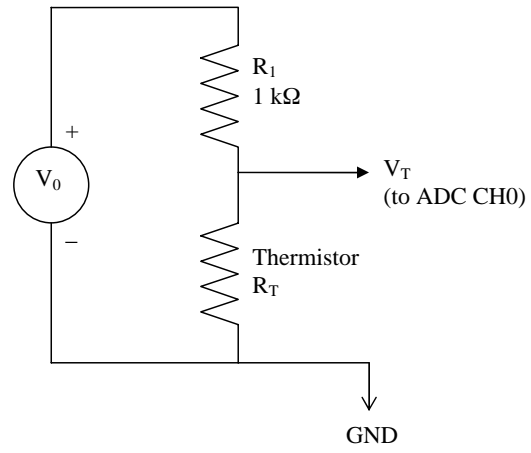

Figure 3.2: Thermistor circuit
1. A thermistor should be mounted in the aluminum block which you used in the previous exercise. It will serve as our thermometer. Using the 5 volt power supply as  $V_0$ , assemble the circuit as shown in Fig. 3.2 on your protoboard. Make a sketch of the circuit in your laboratory notebook.